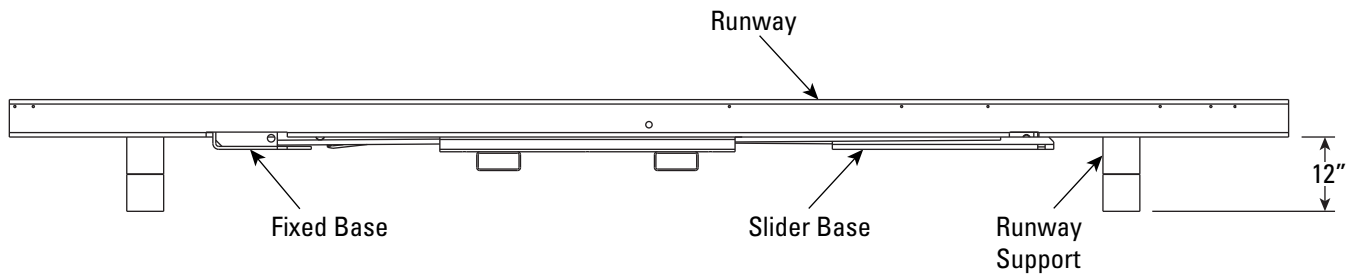
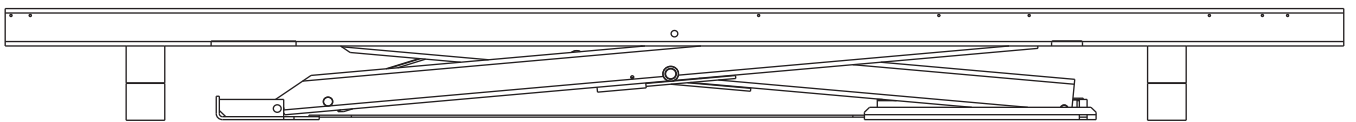

Fig. 3.3.2
Fig. 3.3.3
- Place the lift using a forklift, crane, or an other lifting equipment in the desired location. Each runway should be set on a support approximately 12" tall as shown in Fig. 3.3.2 (See section 1.1 for runway assembly weights). The runways should be spaced apart by 43" (Fig. 3.3.4, page 12). Once the runways are resting on the supports, carefully remove the forklift pocket brackets under each runway. Next, carefully remove the packaging holding the base plates in place and lower the base plates to the floor with the aid of a forklift or crane as shown in Fig. 3.3.3.